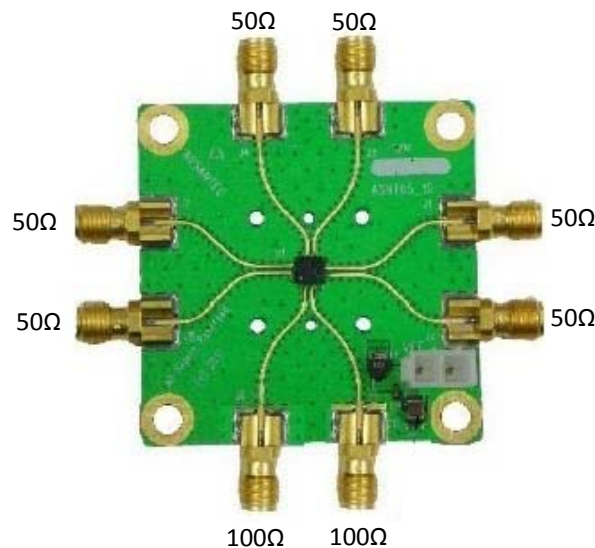

Fig. 2. Impedance of I/O Connectors
2. Measure the resistance of all connector pins to VCC, including the power supply, while making sure the board is grounded. All high speed I/O ports should measure 50Ohms while on the power supply connector, VEE should be high impedance and GND should be a short. icntp/icntn should measure 100Ohms while tnp/tnn should measure 50Ohms. Fig. 2 shows the resistance values of the described I/O connectors.